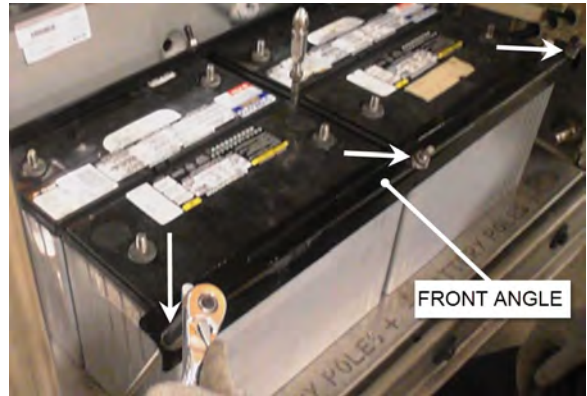

FIGURE 35: REMOVE THE FRONT ANGLE
5. Unscrew three nuts (indicated with arrows) and then remove the front angle (*Figure 35*).